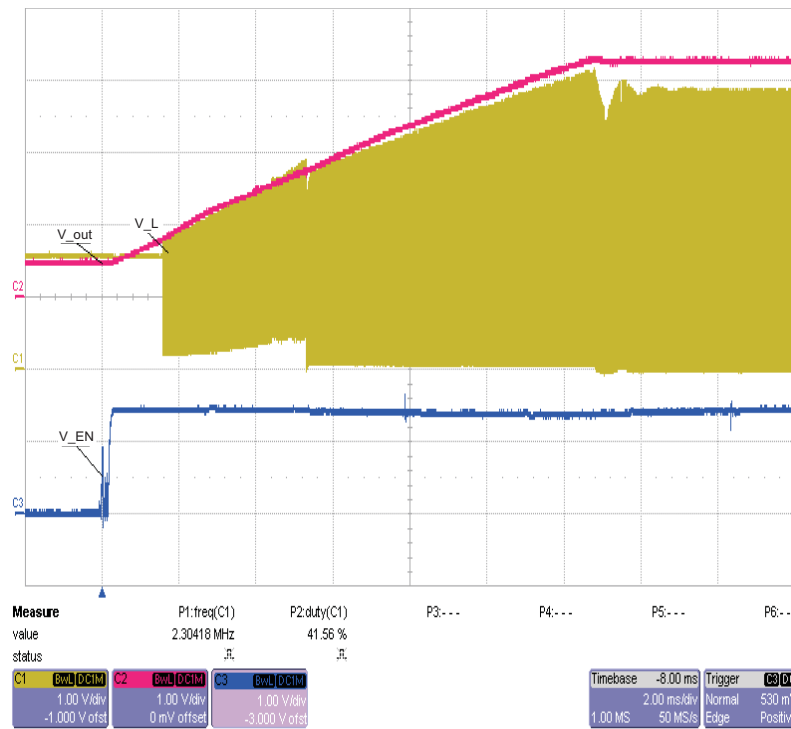

Figure 4. Power-Up With Enable: Boost Switch Node, V_L, Output, Enable; Vin = 1.5 V, Vout = 3.3 Vdc With 49.9-Ω Load
5. Remove the shunt on JP1-OFF and place on JP1-ON. Verify that the converter starts back up (see Figure 4).